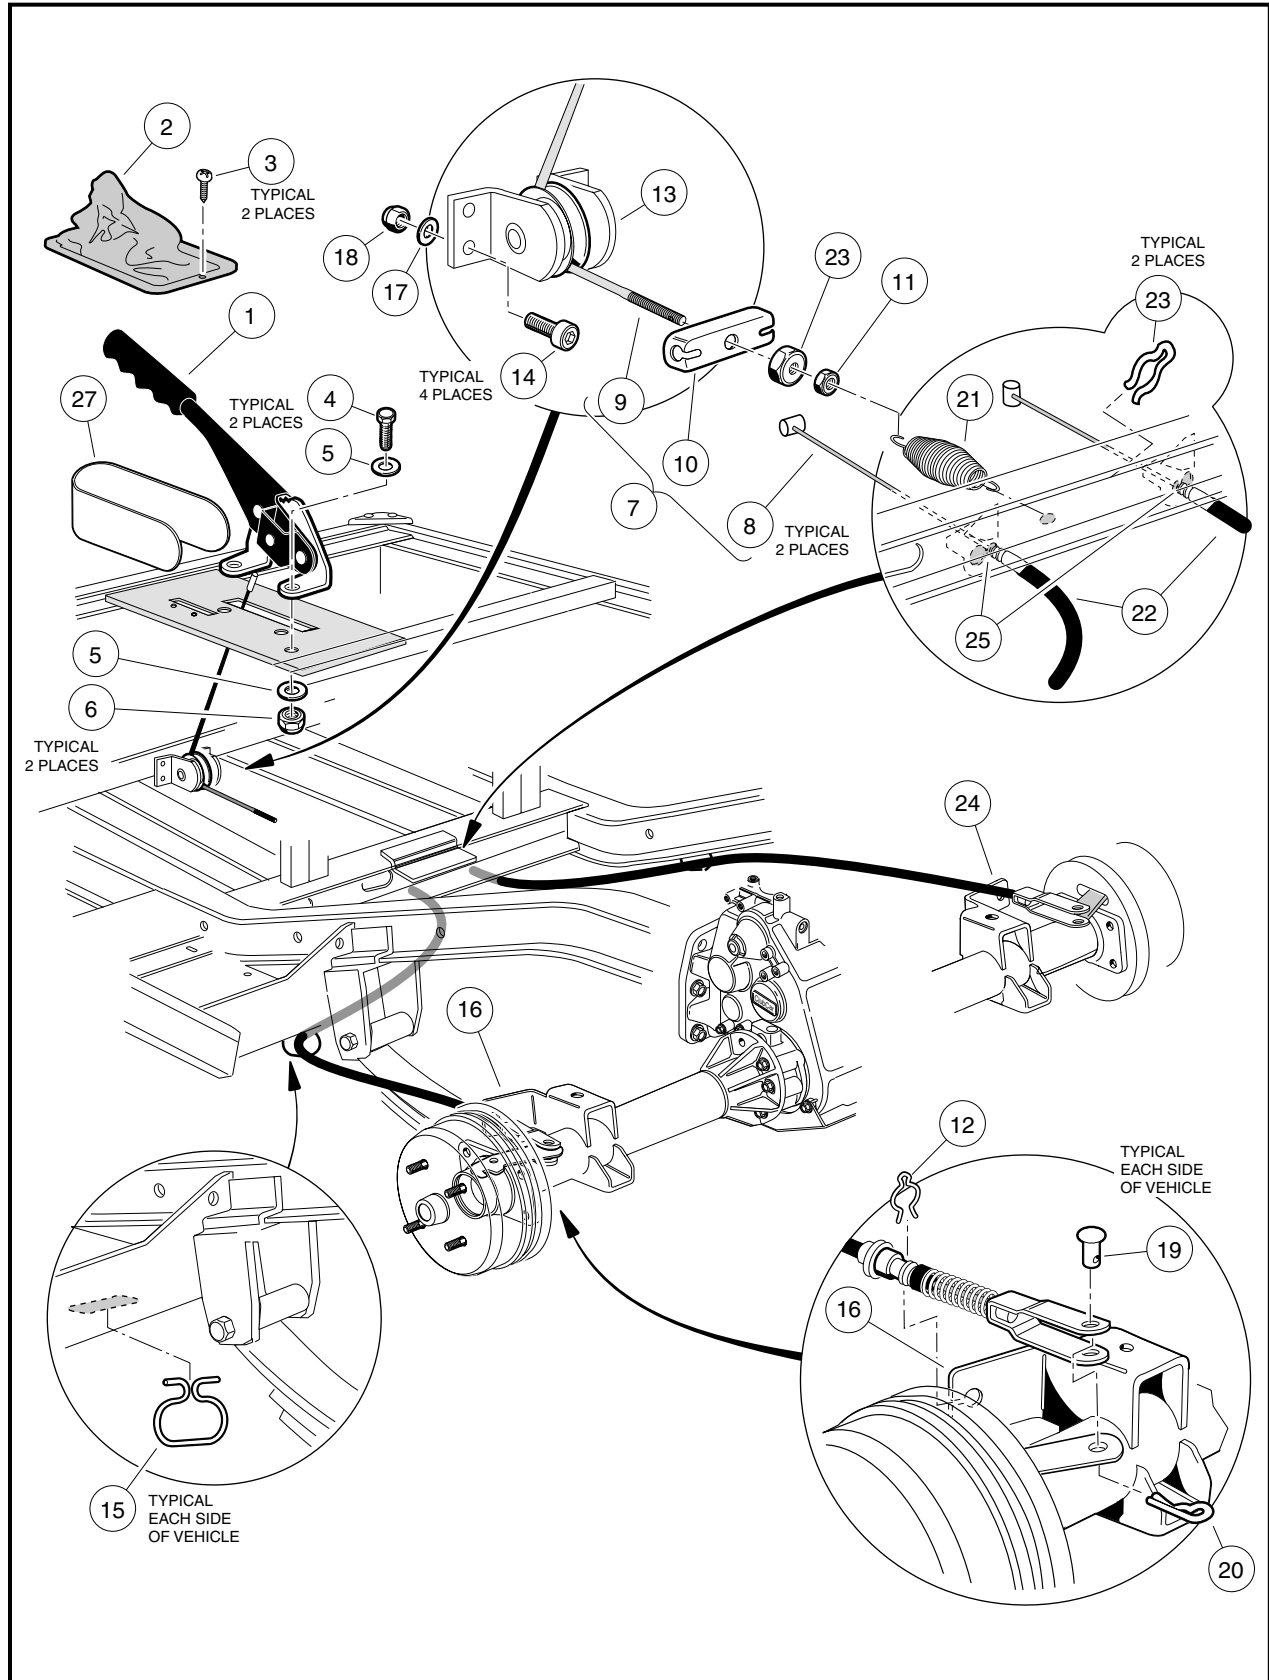

Figure 6a-28 Park Brake System
- 2.1. Loosen the equalizer jam nut (11) and the conical nut (23) to provide slack in the wheel brake cables (**Figure 6a-28, Page 6a-40**).
3. Using a torque wrench and Torx #T-27 driver or hydraulic brake adjuster (CCI P/N 102169401), gently rotate the adjuster bolts to increase or decrease the clearance between the brake shoe lining and the brake drum (**Figure 6a-16, Page 6a-19**). **See following CAUTION.**
- Do not apply more than 65 in-lb (7.3 N·m) of torque to any of the adjuster bolts. Overtightening of the adjuster bolts could result in damage to the brake cluster components or the separation of the bolt (4) from the adjuster (3) (**Figure 6a-3, Page 6a-4 or Figure 6a-21, Page 6a-25**).
4. With the park brake released (down), tighten the conical nut (23) until significant resistance is observed in the equalizer cable in order to fully lock the brakes (**Figure 6a-28, Page 6a-40**).
7. Using the double-wrench method, tighten the equalizer jam nut (11) against the conical nut (23) to 55 in-lb (6.3 N·m) (**Figure 6a-28, Page 6a-40**).